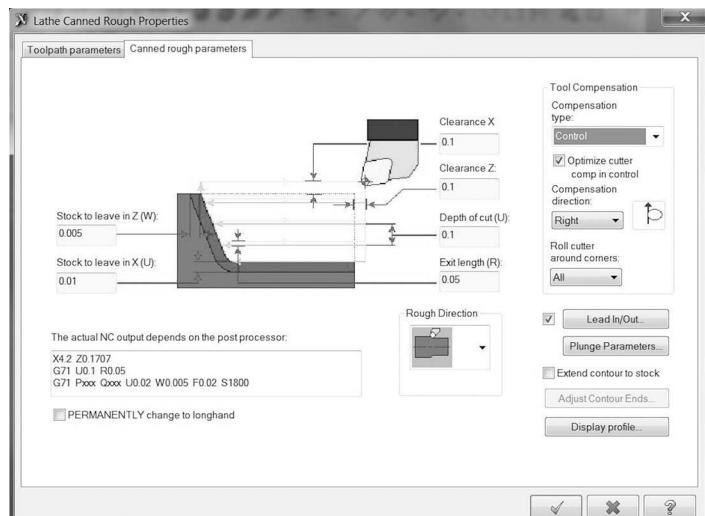

Figure 5-67 Lathe Canned Rough Parameters
- For the Canned rough parameters tab, change the entries to match Figure 5-67.